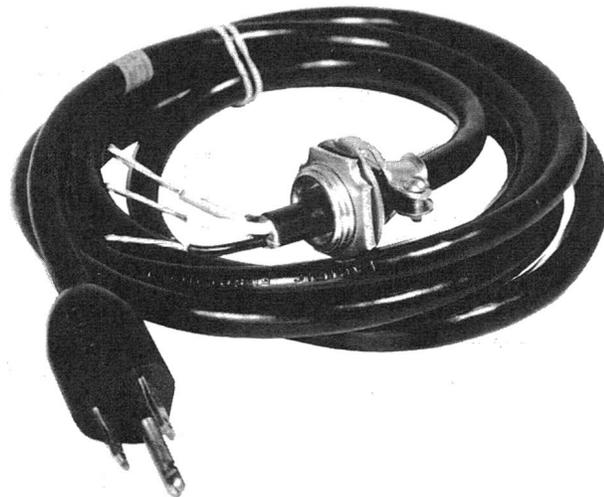

Figure 70 - GB-1318-8 Cord
4.18 The GB1318-8 cord is an 8-foot 3-conductor power cord for use with Western Electric and Altec-Lansing amplifiers. It has a 3-prong molded plug which includes the "U" clip grounding. The "U" clip shall not be removed for standard 2-prong receptacles but a Hubbel 5273-L, or equivalent, adapter shall be used. (Figure 70)